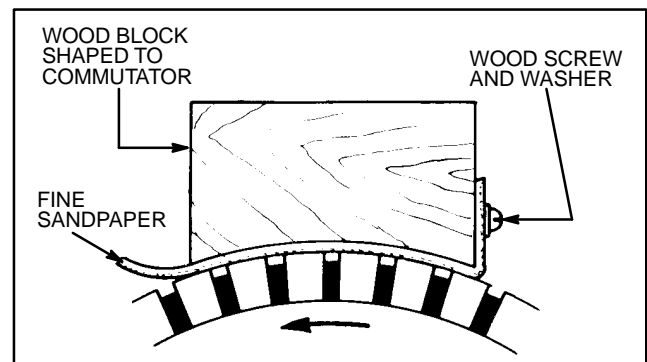

FIG. 9. METHOD OF SANDING COMMUTATOR. E-18149.
1. Attach the fine sandpaper to a wooden block shaped to fit the commutator, Fig. 9.